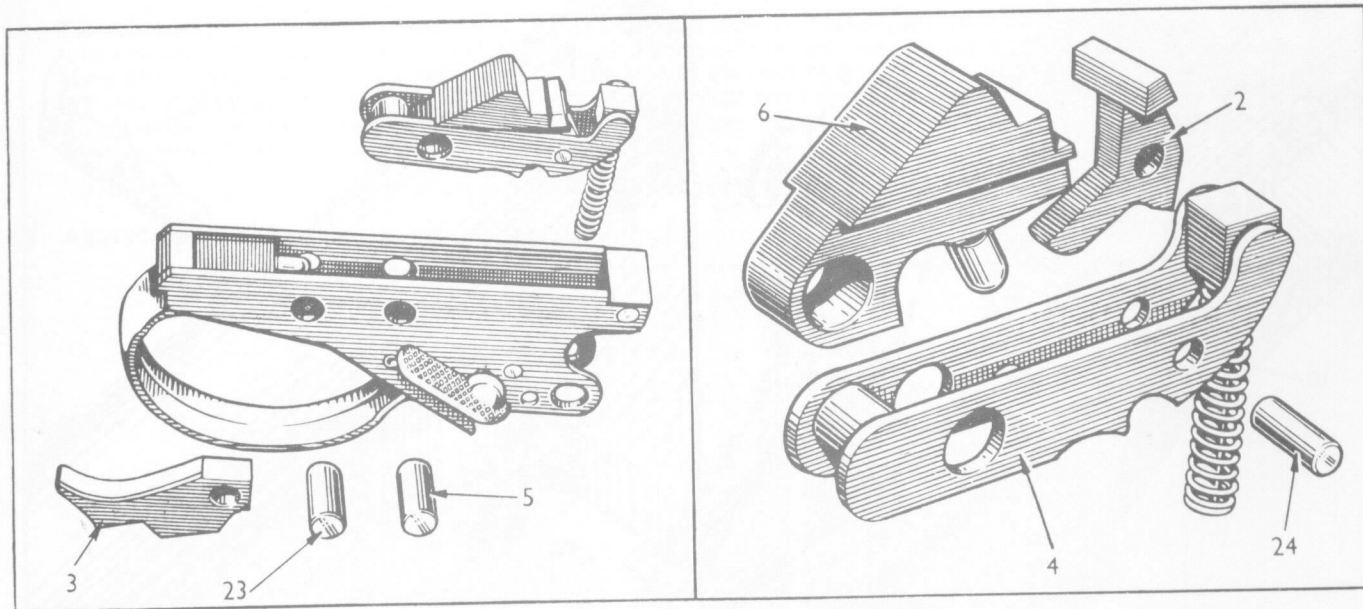

Fig. 13. To strip trigger group
**9.2 TO STRIP TRIGGER GROUP** (Fig. 13). Push out sear axis pin (5) and lift out sear group from trigger group. Push out trigger axis pin (23) and remove trigger (3) downwards through trigger guard.